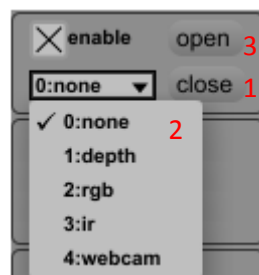

Figure 9. Kinect communication buttons to close (1), open (3), or change (2) the Kinect camera.
This can happen if communication between the Kinect sensor and Ableton Live is not well synchronized. You can observe that the inner surface image disappears and reappears. This can happen with the infra-red (ir) camera for some reason, it does not happen with the depth or rgb cameras. Anyway, if this happens, just follow the button sequence as depicted in Figure 9. First “close” the Kinect communication (1), change the “3:ir” camera to “1:depth” (2), open the communication (3), close the communication again (1), change the Kinect camera to “3:ir” again (2) and open communication again (3).